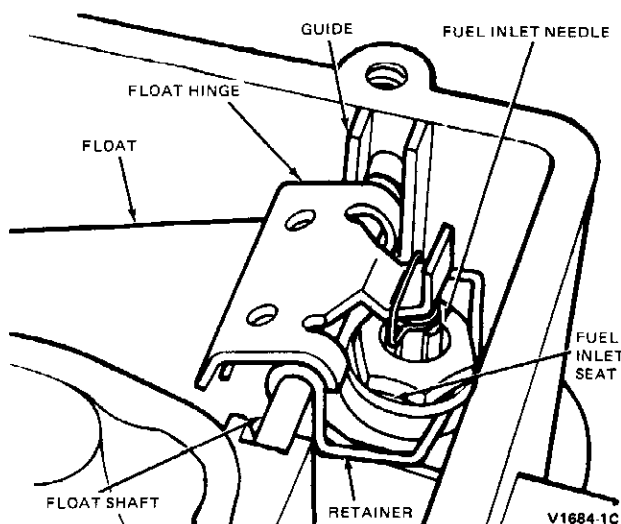

FIG. 22 Float Assembly
1. With the use of a screwdriver, pry the float shaft retainer from the fuel inlet seat (Figs. 22 and 23). Remove the float, float shaft retainer and fuel inlet needle assembly. Remove the retainer and float shaft from the float lever.
15. Slide the float shaft into the float lever (Fig. 22). Position the float shaft retainer on the float shaft.